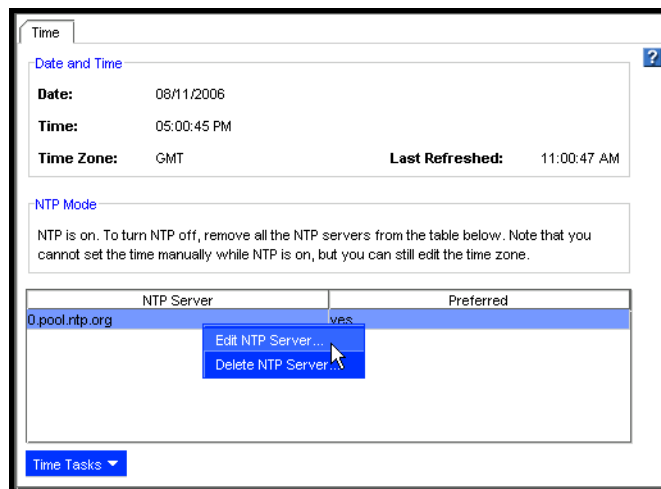

Figure 77. Selecting an NTP Server to Edit
3. Click Edit NTP Server, shown in Figure 77.